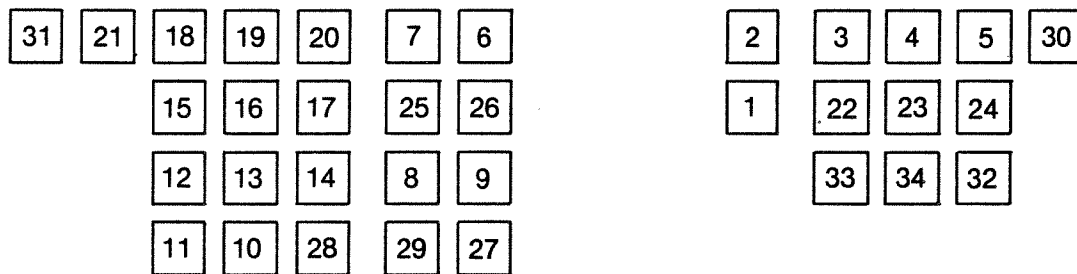

Figure 8-8. Keyswitch Test Display Numbers
3. Exercise each keyswitch on A7 assembly. A number should be displayed on test fixture display digits which corresponds to Figure 8-8. Record results on data sheet.